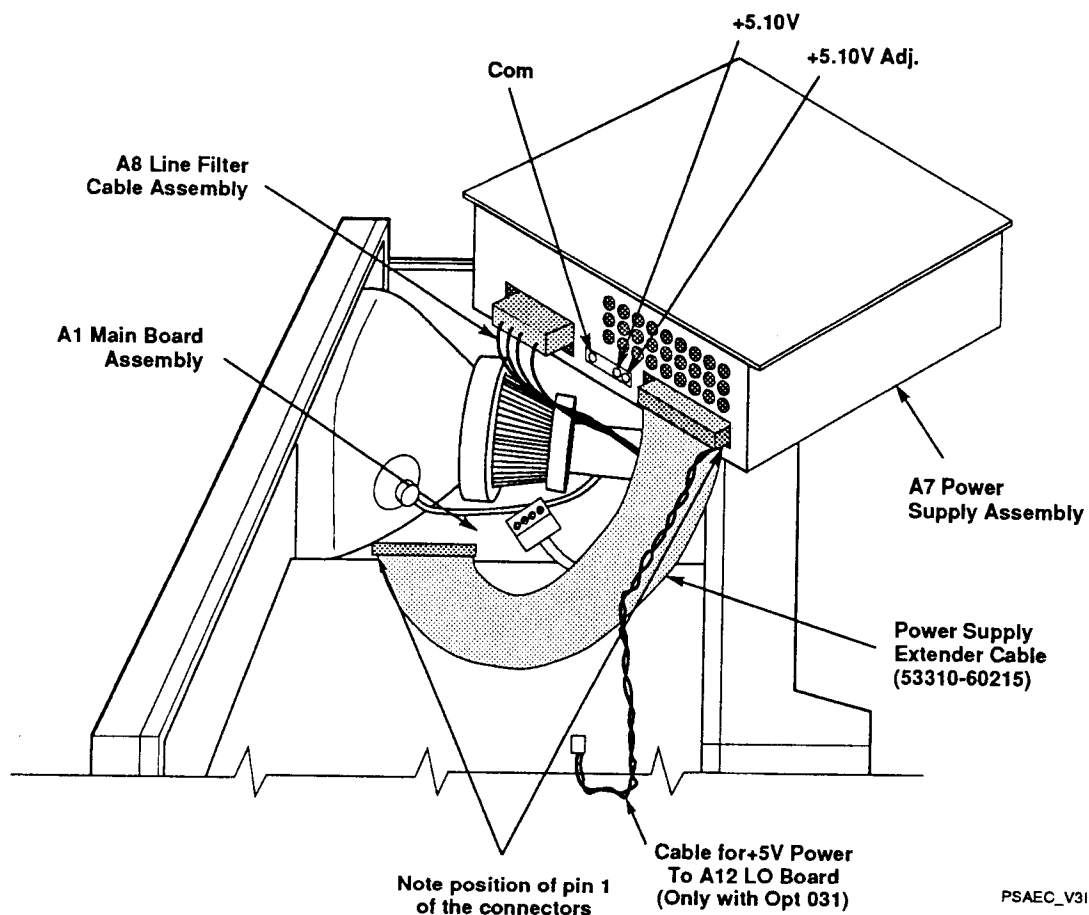

Figure 3-2. A7 Power Supply Assembly and Extender Cable Setup
- 7 *For easier access to the power supply adjustment, use the Power Supply Extender Cable (53310-60215) in the Service Accessories Kit (53310-67001). To use the extender cable perform the following (refer to Figure 3-2 as needed):